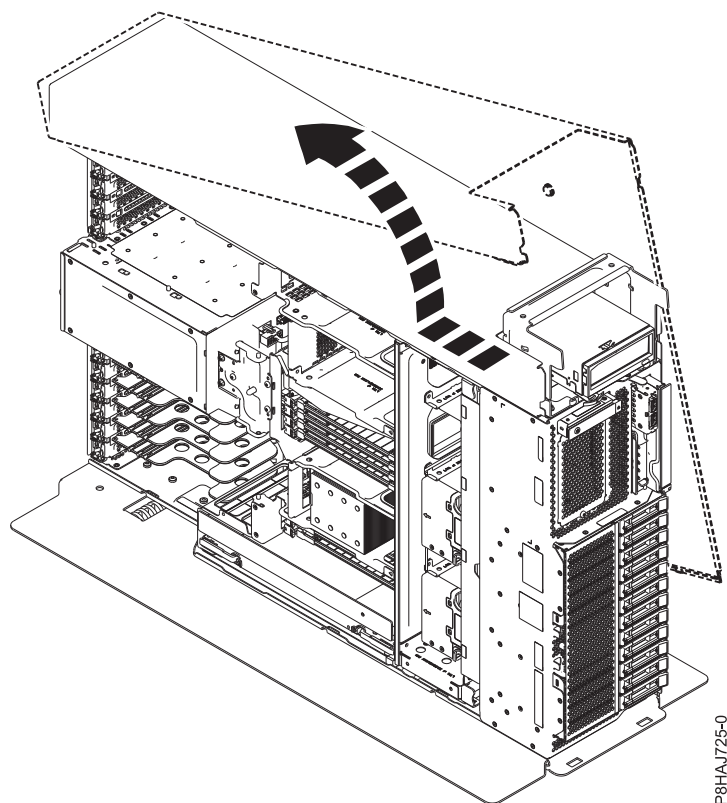

Figure 15. Removing the 8286-41A side cover
5. Slide the side cover off of the system in the direction that is shown in Figure 15 on page 32.